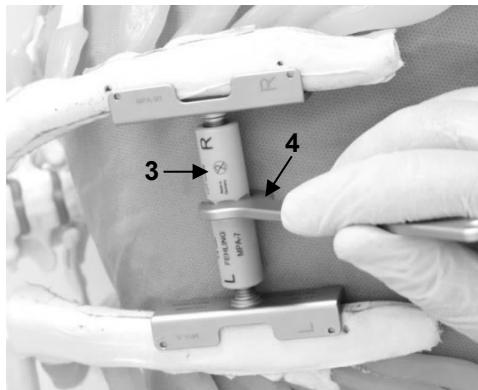

Fig. 9
The width of the sternal opening must be adapted to the surgical requirements. The distance between the sternal blades can be varied (Fig. 9) by rotating the PEEK nut (3) with the fork wrench (4) (see 8) Required accessories).